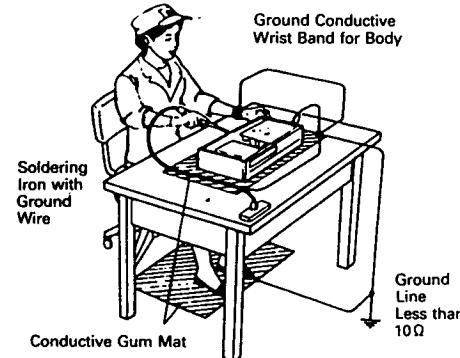

Figure 8
1. Remove the CD mechanism assembly by refering to the "exploded view" (See Figure 8).